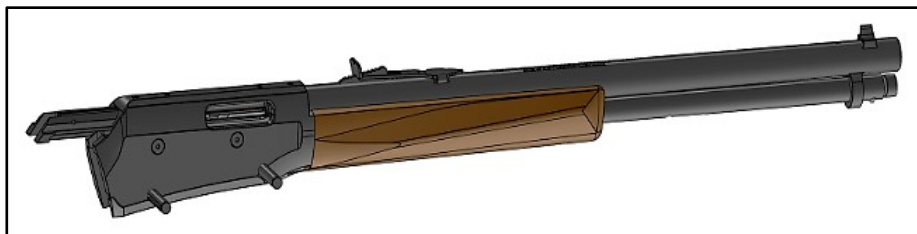
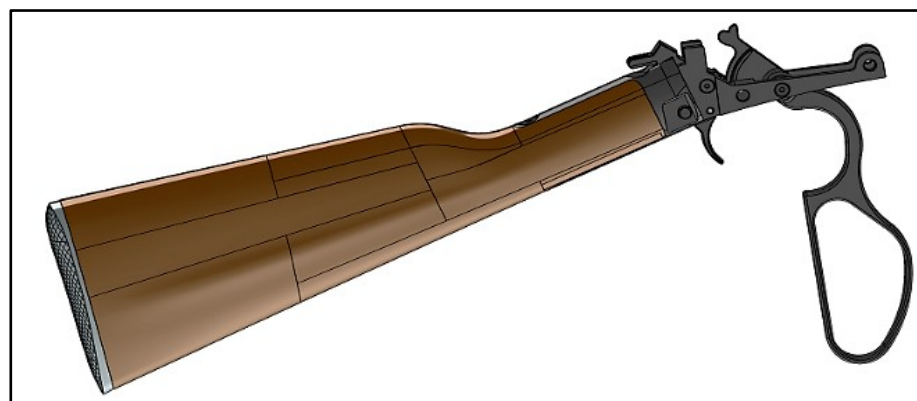

FIGURE 23 – Upper half assembly
FIGURE 24 – Lower half assembly
Your Revel lever action model is designed to takedown for easier transport and carry – FIGURE 23 & FIGURE 24.
5. Pull the lower and upper halves in the opposite directions. The firearm is now separated into upper and lower halves - FIGURE 23 & FIGURE 24.